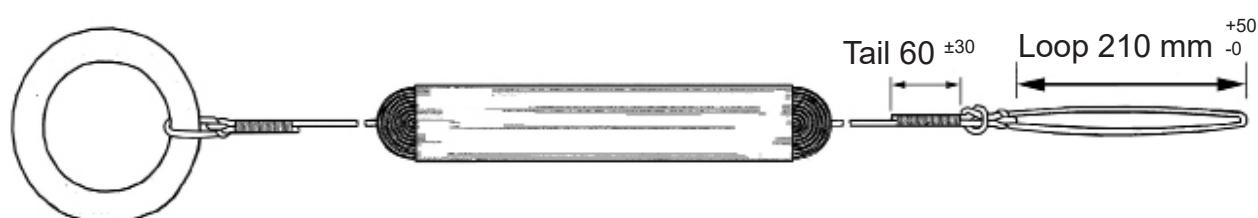

FIGURE 811
- 2.16.5 Make a loop on the rescue line cord, opposite end to the quoit attachment. This loop must be prepared using a bowline knot, followed by one overhand 'lock' knot. Tape over the tail end using 25 mm (1") wide tape. Refer to FIGURE 811.